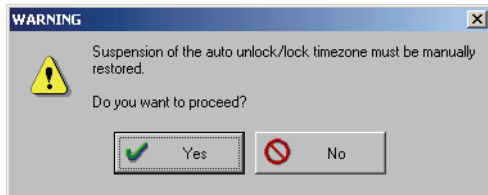

Figure 6-11: Suspend Auto Unlock/Lock Reminder
2. Click on the  button, and then click on the  button. A window appears reminding the operator that doors with a Suspended Auto Unlock/Lock time zone must be manually Restored (see Figure 6-11).